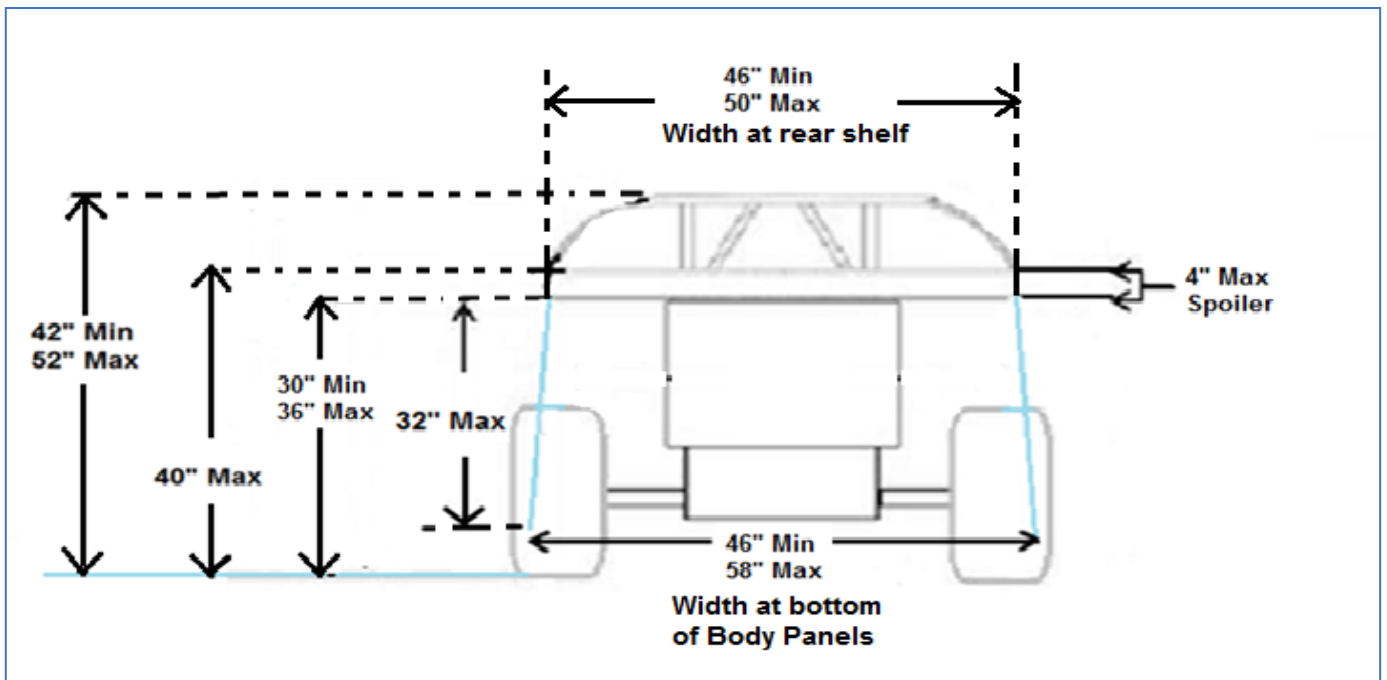

Figure 2
7.2 Width at rear shelf of body panels is 46 inches min 50 inches max (No tolerance) *(Figure 2).*
7.3 Width of body panels at lowest point: min 46 inches, max 58 inches (No tolerance) *(Figure 2).*
7.13 No part of the roof panel can be taller than 52 inches or less than 42 inches when measured vertically from the ground (No tolerance). *(Figure 2).*